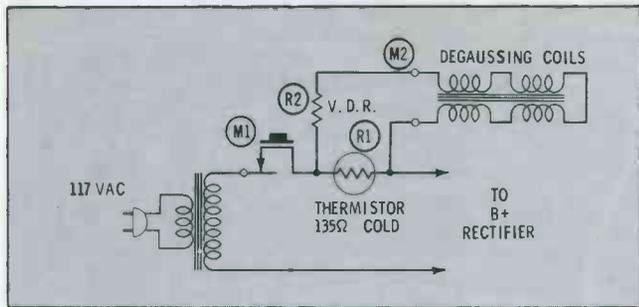

Fig. 6. Bad thermistor causes too much current in coils.
Step 4: Connect a VOM—AC volts scale—across the terminals to automatic-degaussing coils (Fig. 6).